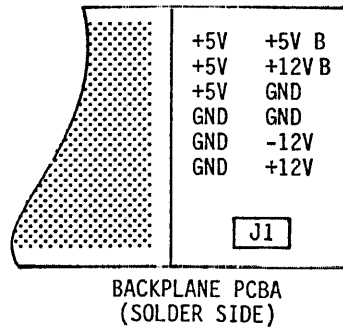
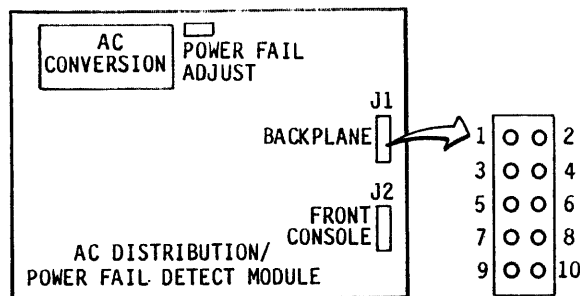
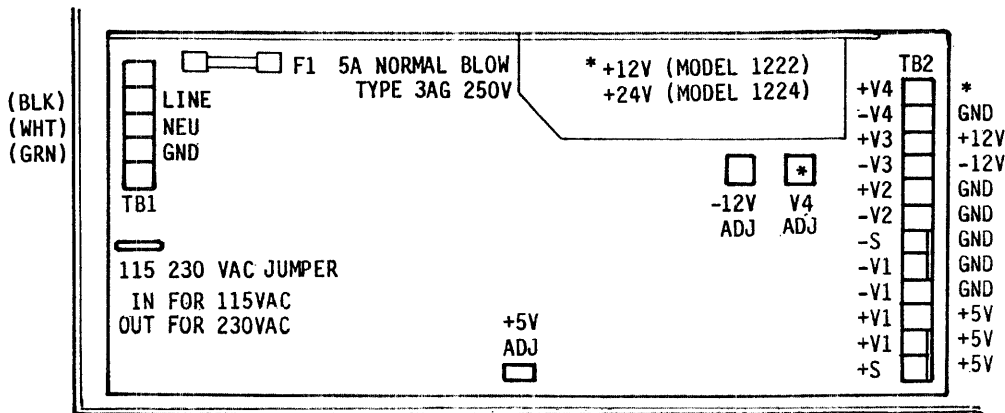

FIGURE 3-1: BACKPLANE POWER CONNECTIONS
FIGURE 3-2: J1 AND J2 CONNECTOR
FIGURE 3-3: DC POWER ADJUSTMENTS
2. Install the ground cable on the side of the mounting bracket using supplied hardware. Connect the shorter end of the ground cable to drive ground (location may vary), and the longer ground cable to logic ground on the backplane (Figure 3-2).
Attachment of DC power to the backplane is via power cables from the DC distribution module. The power cables provide +5VDC, +12VDC, -12VDC, and Ground. The power tabs for +5VDC can accept up to 45A. Figures 3-1 illustrates the backplane power connections.
The AC distribution/power fail detect module contains two 10-pin connectors for interfacing to the front console (J1) and backplane (J2). The J1 cable plugs into the front console PCBA and the J2 cable plugs into the backplane PCBA (Figure 3-1). The 10-pin connector is illustrated in Figure 3-2. Pin assignments for J1 and J2 are defined in Tables 3-1 and 3-2, respectively.
Voltages can be adjusted to within +/-10% of nominal by turning potentiometers clockwise for a decrease and counterclockwise for an increase in voltage. Refer to Figure 3-3 for location of voltage adjustment pots on the power supply module. The power fail detect adjustment is located on the AC distribution/power fail detect module (Figure 3-2). The power supply bracket is connected to DC GND and AC safety GND, and can be used for ground reference in voltage measurements.
Figure 3-2 shows the location of the power fail detect pot. Adjustment should be made by monitoring BB1 (Figure 2-4). Note that pin BB1 should be high. If +5VDC and +12VDC are present and within tolerance, BPOKH should be high. If not, adjustment is necessary. Using a VOM, adjust the pot until pin BB1 can be observed going low. Then back off until pin BB1 remains high. Continue slightly beyond this point to provide extra margin.